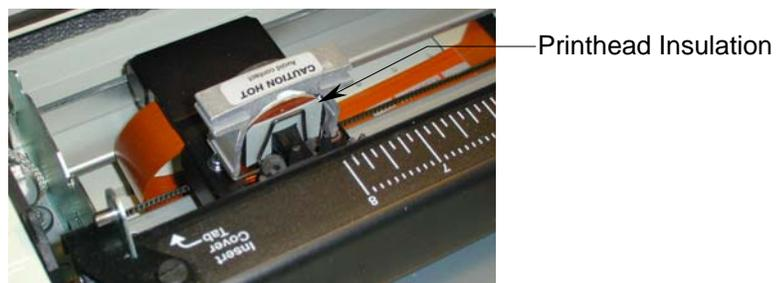

Figure 2 With printhead insulation
4. Verify proper installation of the printhead insulation by visually checking the front side (needle end) of the printhead (see figure 2).